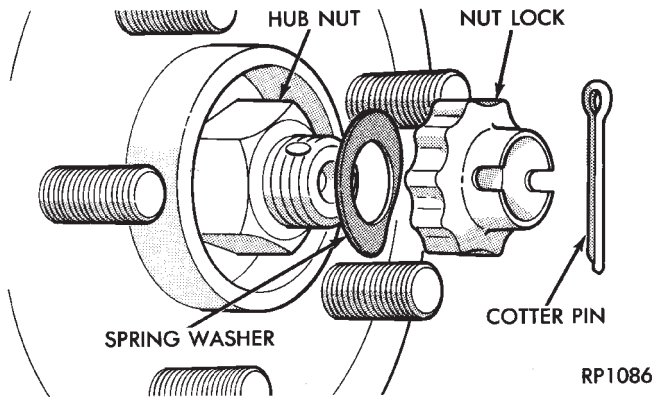

Fig. 58 Cotter Pin, Nut Lock
(1) Remove cotter pin, nut lock, and spring washer (Fig. 58) from the front stub axle.